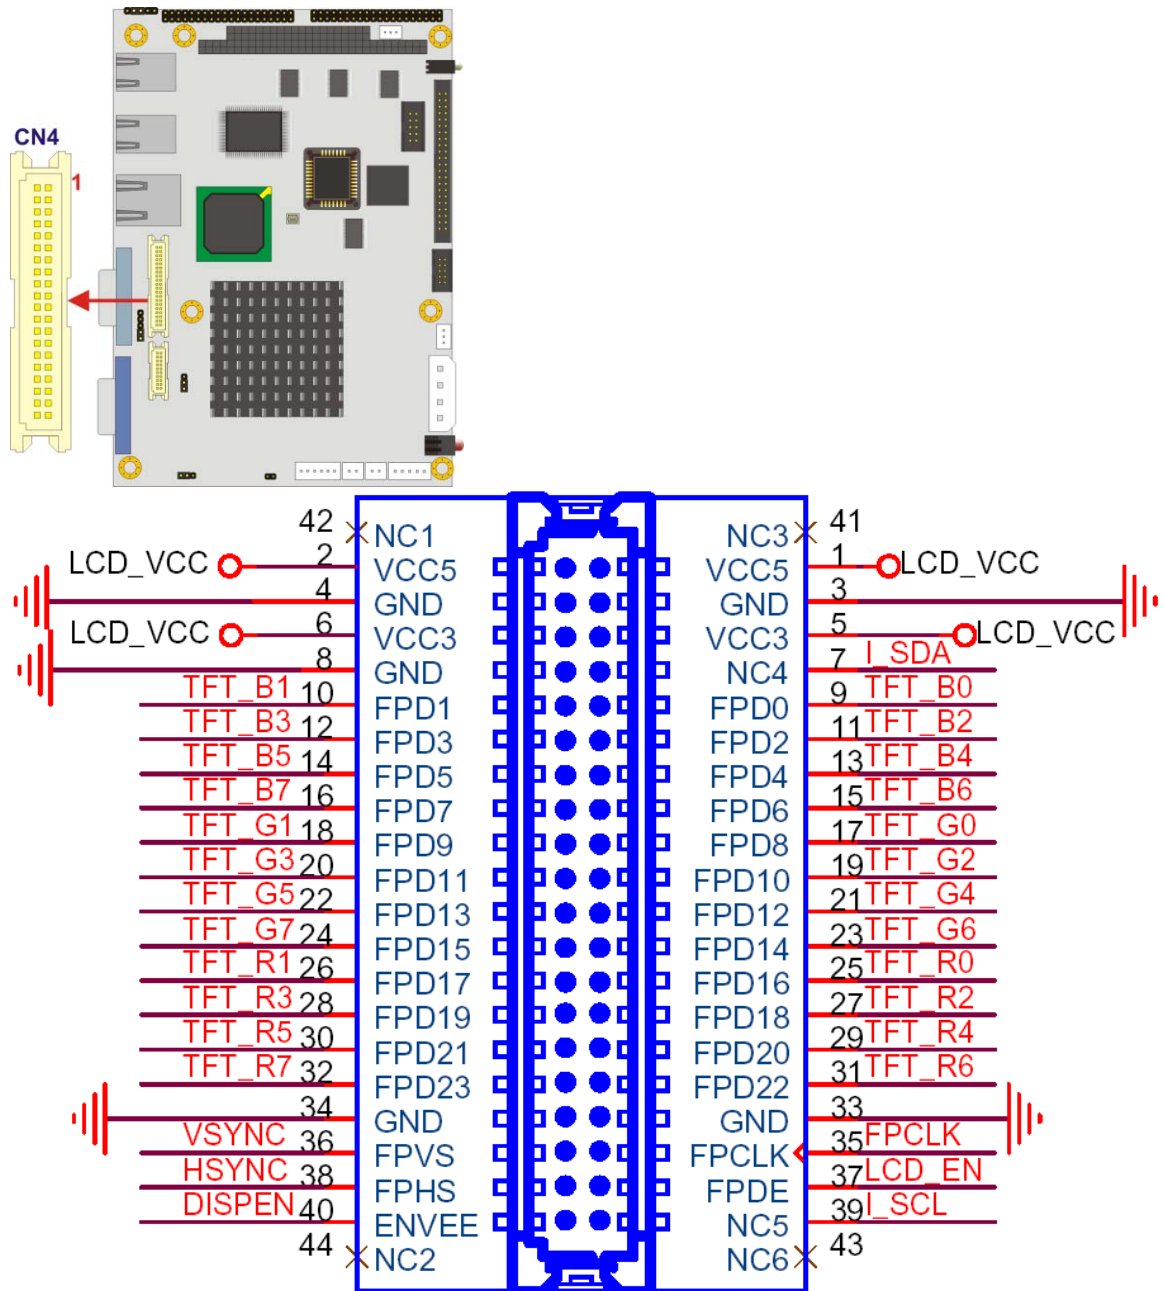

Figure 4-19: TFT LCD TTL Connector Pinout Locations
- CN Location: See Figure 4-19